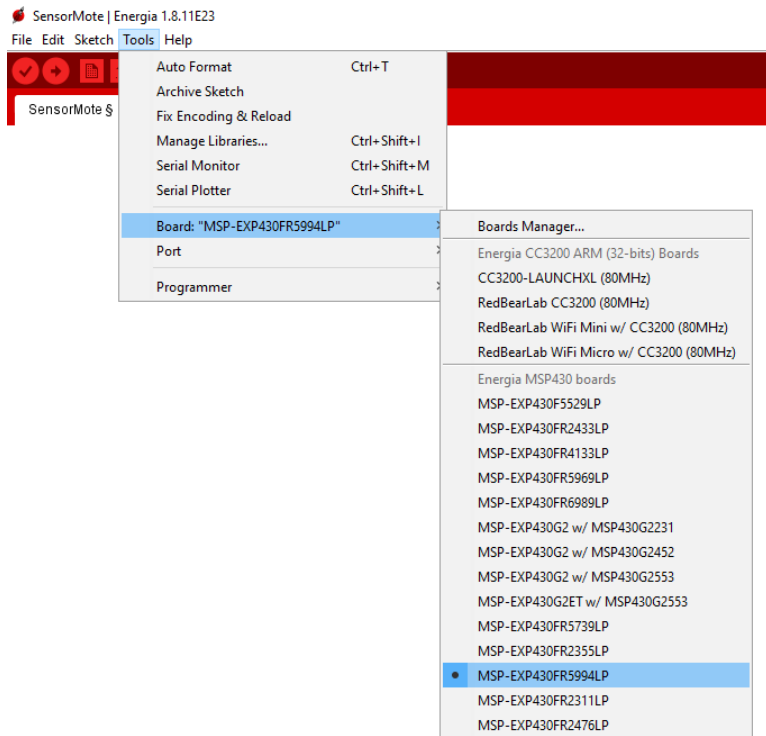

Figure 2: Selecting the MSP-EXP430FR5994LP board in Energia IDE
- Make sure that in Energia the “MSP-EXP430FR5994LP” board is selected (Figure 2) and then upload the code to the board using a USB cable.